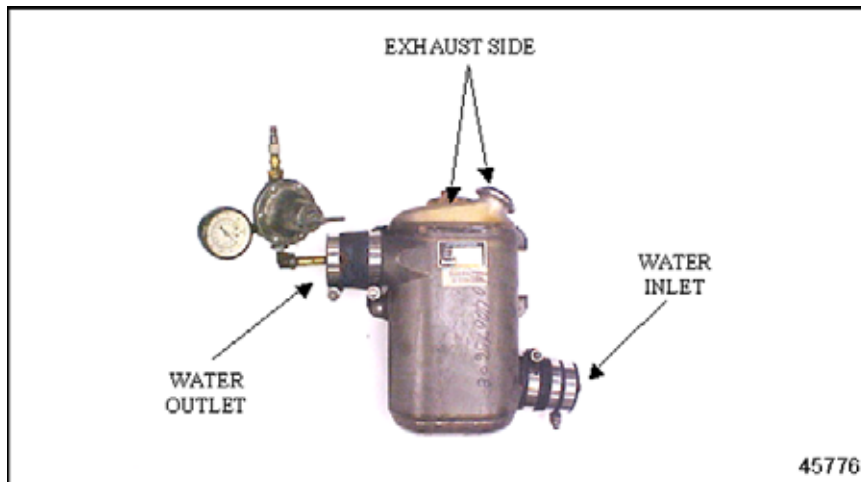

Figure 10-3 EGR Cooler Ports Setup
1. Use hoses, clamps, plugs, and a regulator to seal the cooler water inlet and water outlet ports. See Figure 10-3.
3. Apply 207 kPa (30 psi) of regulated air to the regulator for three minutes. See Figure 10-3